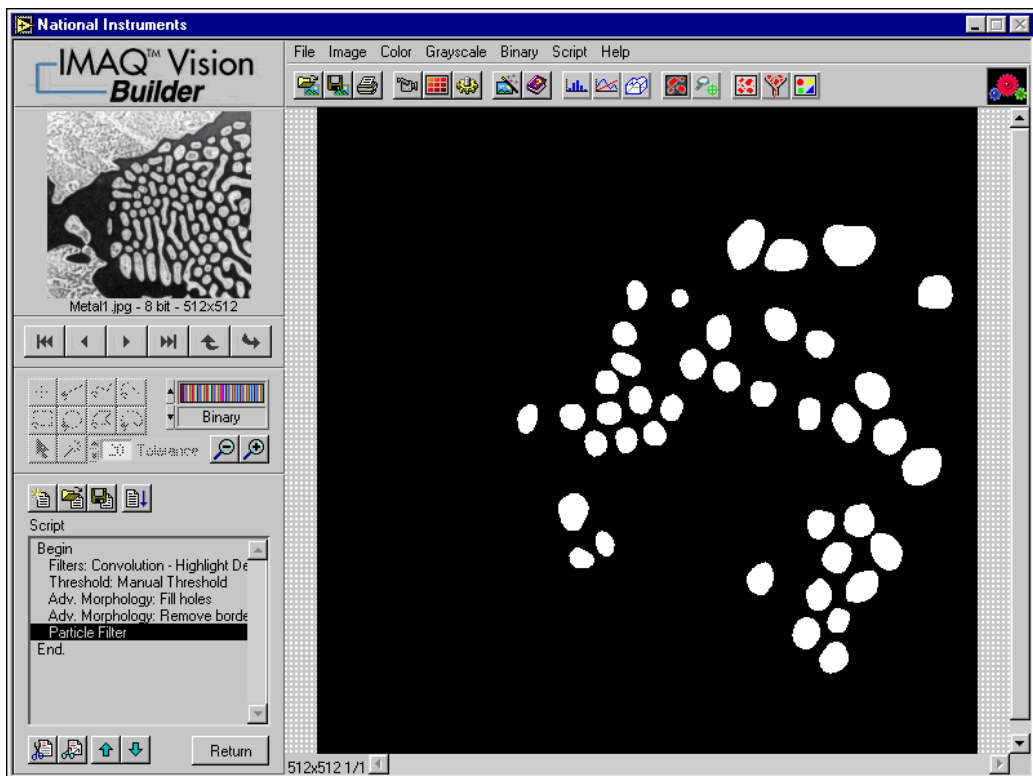

Figure 3-5. Isolating Circular Blobs
5. Click **OK** to add this step to the script. The image now contains only the circular blobs, as shown in Figure 3-5.